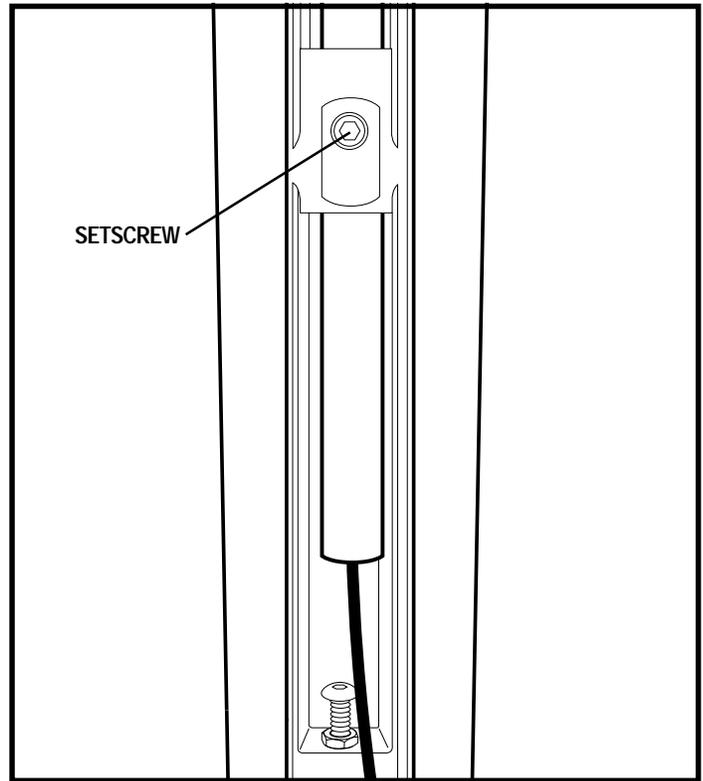

Figure 16. Underside of Armrest
3. Flip up the armrest and loosen the setscrew. See figure 16.